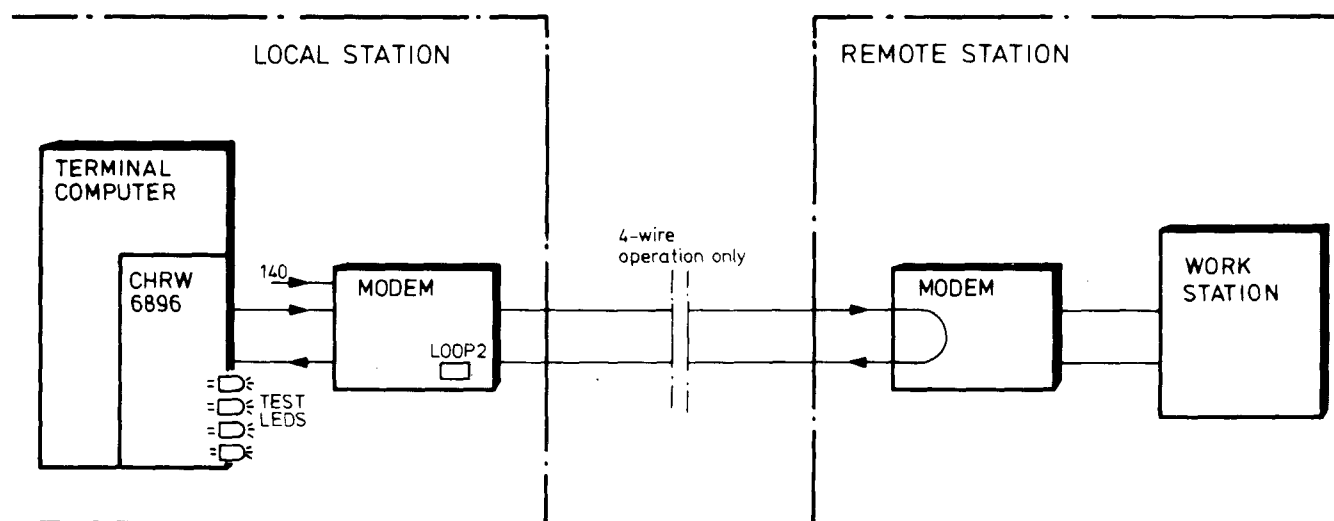

Figure 26.21 REMOTE MODEM TEST, LOOP-2 REMOTE SET
1. Switch "LOOP-2" on the front panel of the Remote modem. See figure 26.21. Remote modem test, LOOP-2, remote set.